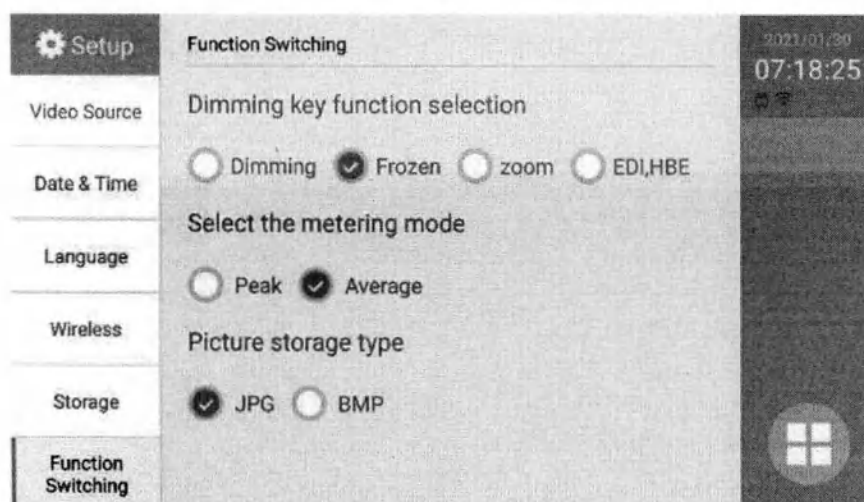

Fig3.10
3.10.1 Under the main menu, press the "function switch" button. Enter the function switch setting interface, and select "freeze" below (as shown in Fig 3.10). Then return to the preview interface.